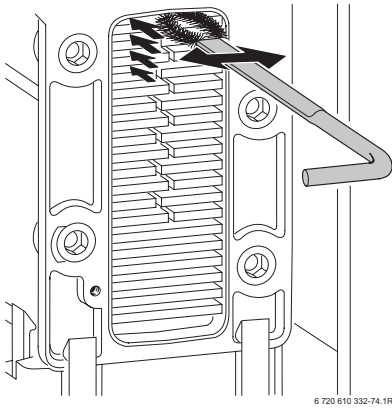

Fig. 48
- Clean the heat exchanger from top to bottom using the brush. Refer to fig. 48.